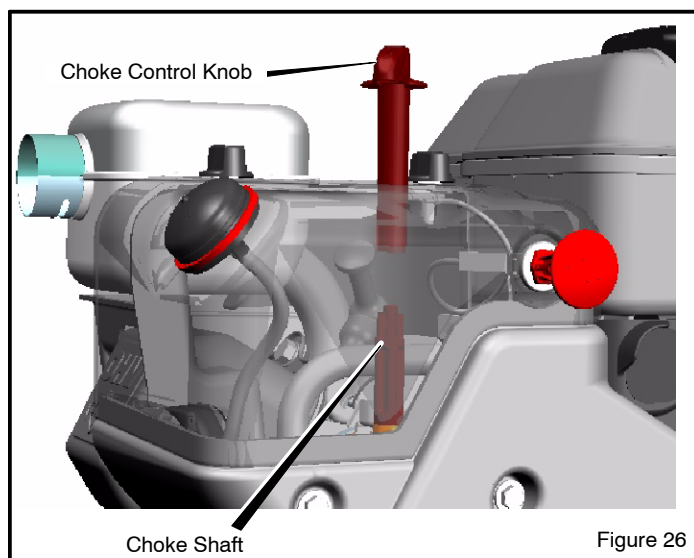
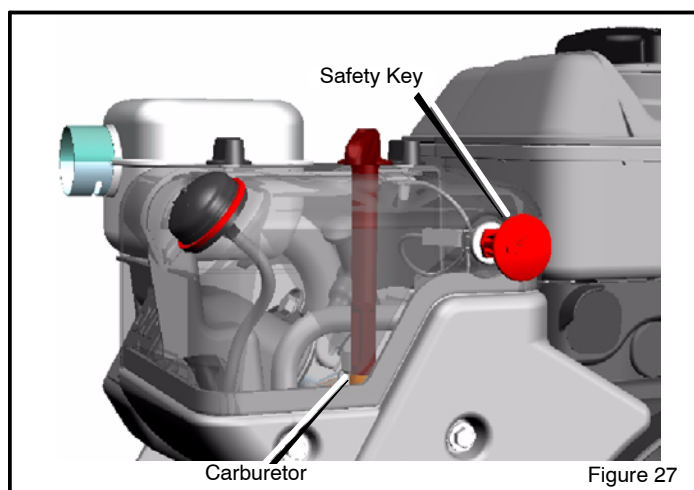

Figure 26
Figure 27
8. Connect the choke control knob with the choke shaft on the carburetor (see Figure 26 and Figure 27). Make sure the choke control knob is properly installed. If the choke control knob is not installed correctly, the choke will not operate.